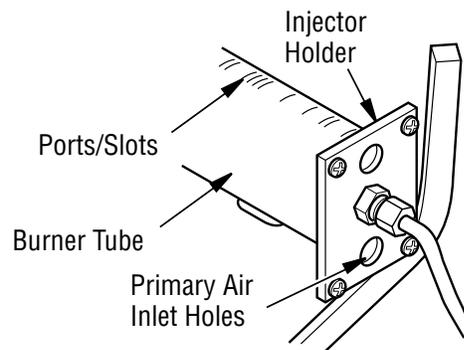

Figure 42 - Injector Holder On Outlet Burner Tube
2. Inspect burner, pilot, and primary air inlet holes on injector holder for dust and dirt (see **Figure 42**).